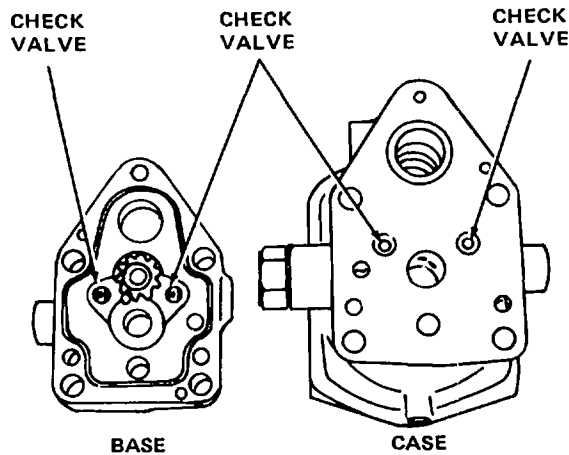

Figure 11-10. Governor Check Valve Assembly
(3) Seat new check valves on both base (71) and case (96) as shown in figure 11-10. Use check valve assembly tool (Special Tool T79679) for seating valves in base and check valve assembly tool (Special Tool T79516) for seating valves in case. (Both tools seat valves to correct depth.)